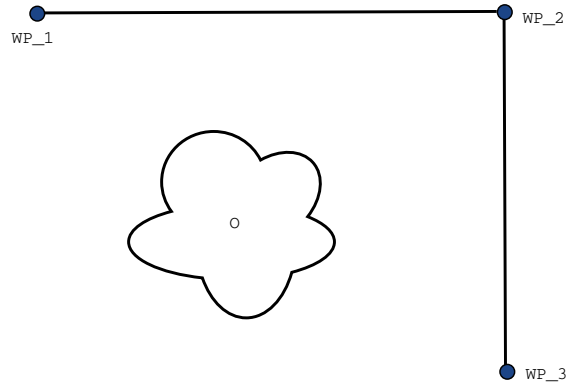

Figure 14.2: WP\_1: initial position, WP\_2: via point, WP\_3: pick up position, O: obstacle.
**Example** Consider a pick and place application as an example (see figure 14.2), where the robot is currently at Waypoint 1 (WP\_1), and it needs to pick up an object at Waypoint 3 (WP\_3). To avoid collisions with the object and other obstacles (O), the robot must approach WP\_3 in the direction coming from Waypoint 2 (WP\_2). So three waypoints are introduced to create a path that fulfils the requirements.